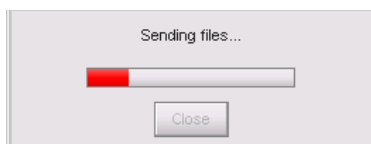

Figure 4-47 Send Firmware Dialog Box
7. Click *Yes* to download the firmware version. The *Send Firmware* dialog box displays (Figure 4-47) and the following occur during the download:
8. After the IPL, a **Send firmware complete** message displays at the *Send Firmware* dialog box (Figure 4-47). Click *Close*.